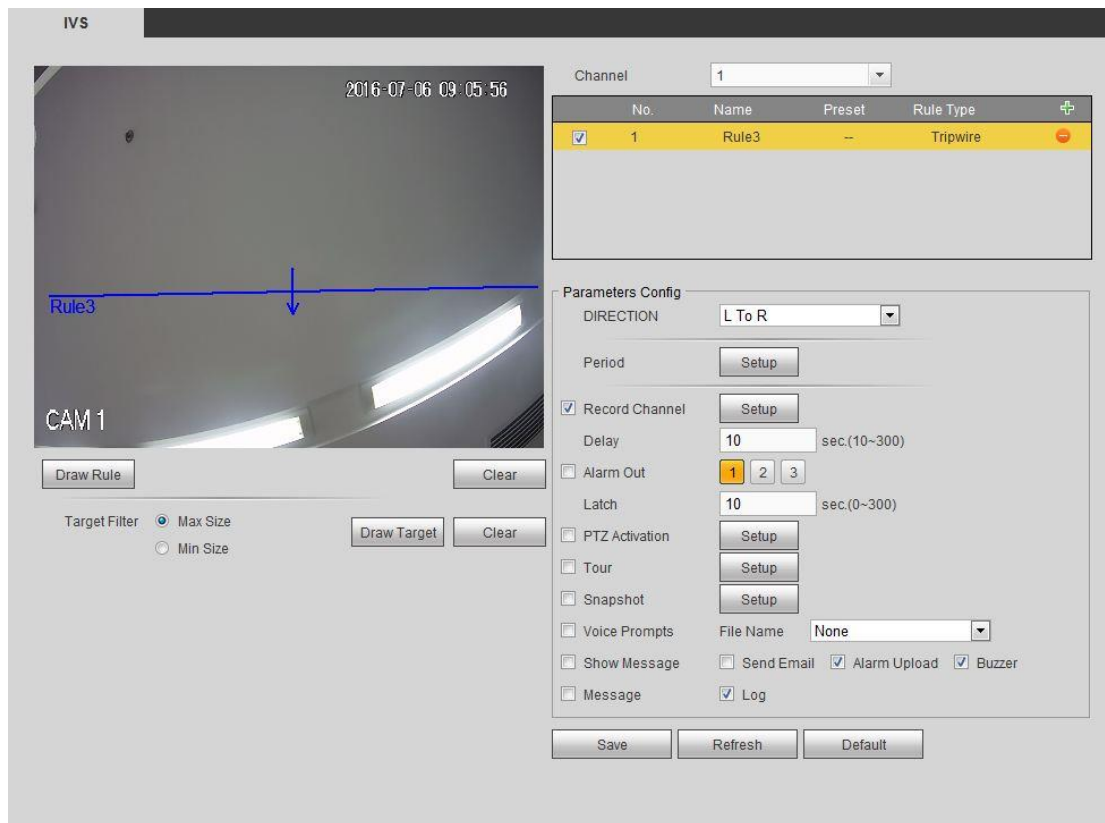

Figure 5-85
Step 3 Click Draw rule button and then left click mouse to draw a tripwire. Right click mouse to complete. See Figure 5-85.